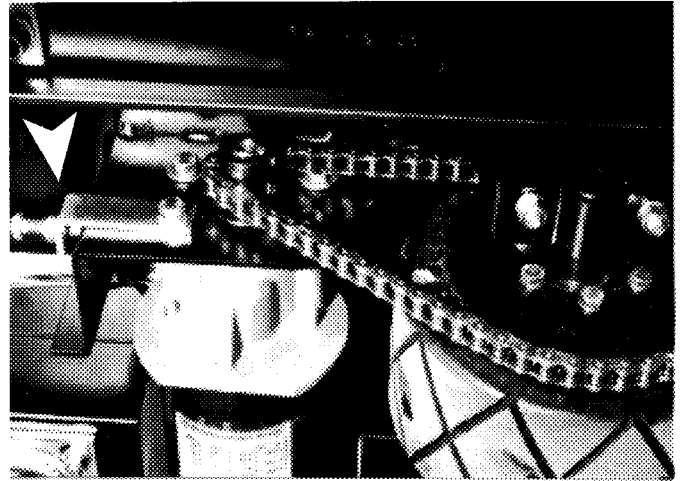

FIG. 26
2. Loosen locking nut on tension bolt. (Figure 26)